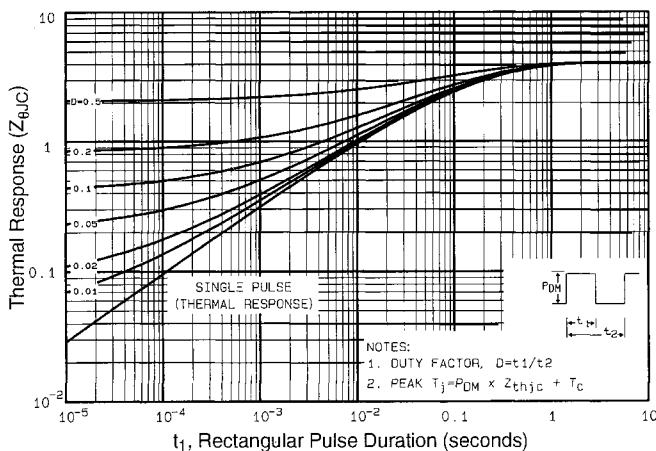

Fig 11. Maximum Effective Transient Thermal Impedance, Junction-to-Case
① Repetitive rating; pulse width limited by max. junction temperature (See Figure 11)
③ $I_{SD}\leq-3.9\text{A}$, $dI/dt\leq95\text{A}/\mu\text{s}$, $V_{\text{DD}}\leq V_{(\text{BR})\text{DSS}}$, $T_J\leq150^\circ\text{C}$ ⑤ $t=60\text{s}$, $f=60\text{Hz}$ ② $V_{\text{DD}}=-50\text{V}$, starting $T_J=25^\circ\text{C}$, $L=13\text{mH}$